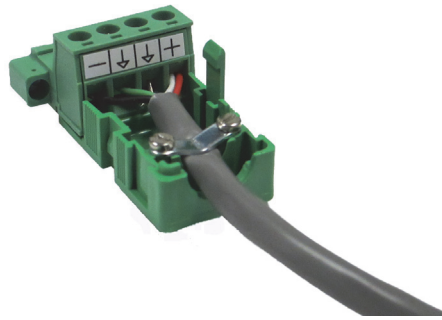

Figure 6.2 Open NK-D12/PN
- a. Attach one wire to the negative contact (**Figure 6.2**).
- b. Attach one wire to a ground (**Figure 6.2**).
- c. Attach the ground wire to the second ground (**Figure 6.2**).
- d. Attach two wires to the positive contact (**Figure 6.2**).